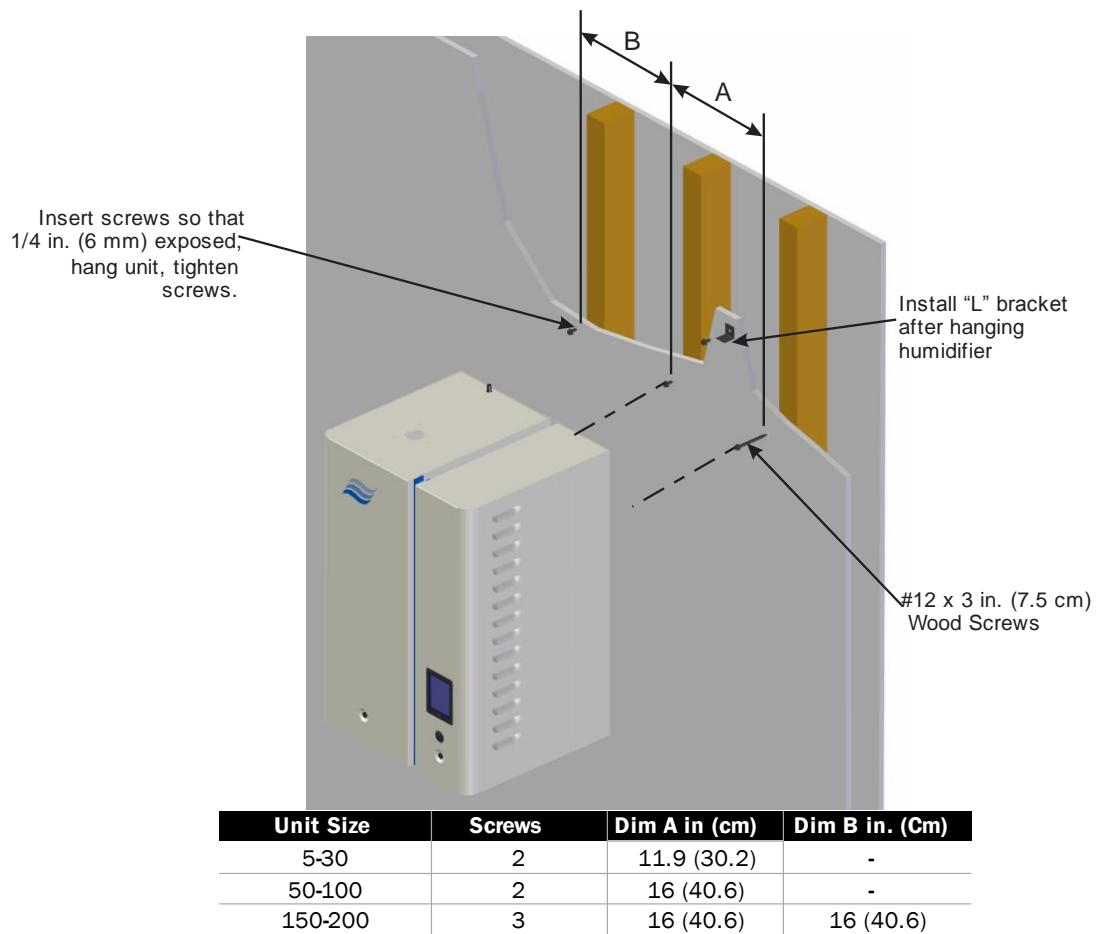

Figure 6: Mounting with Keyholes
- 5 Place "L" Shaped brackets on top of the unit, with holes inline with the studs. Using the appropriate sized wood screw, fasten the "L" brackets to the studs, securing the unit from any upward motion. See Figure 6: Mounting with Keyholes.